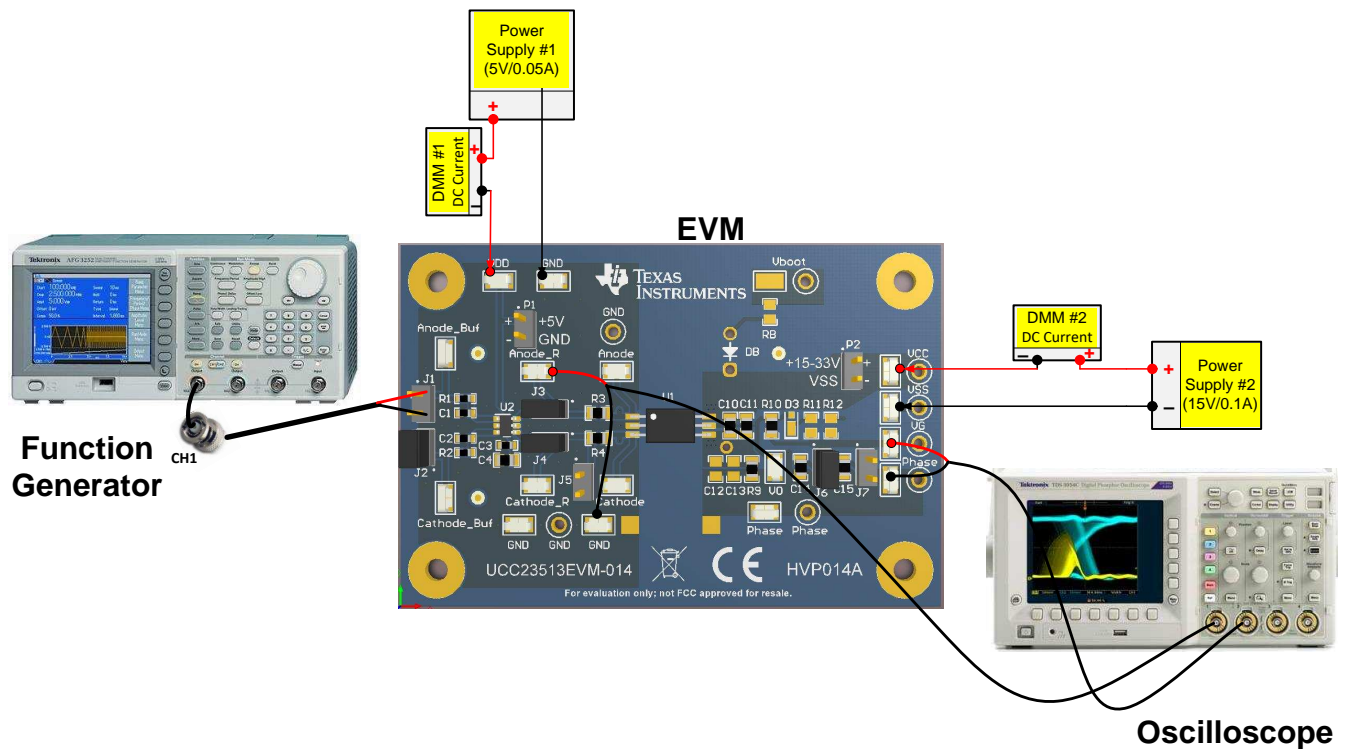

Figure 2. Bench Setup Diagram and Configuration
Please follow the connection procedure below, and Figure 2 can be used as a reference.
- Function generator channel applied on J1-1 \longleftrightarrow J1-2, see in Figure 2;